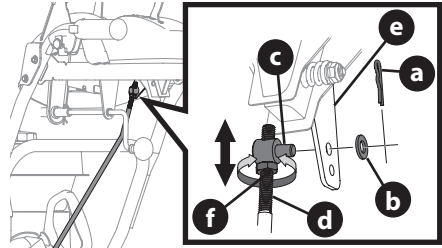

Figure 26
8. Remove cotter pin (a) and washer (b) from adjustment ferrule (c) on shift rod (d) and pull it out from shift lever (e) (Figure 26 inset).
10. Insert ferrule into top hole of shift lever and secure with hairpin clip (c) and washer (d) removed in Step 8 (Figure 26). Ferrule may need to be adjusted up or down.